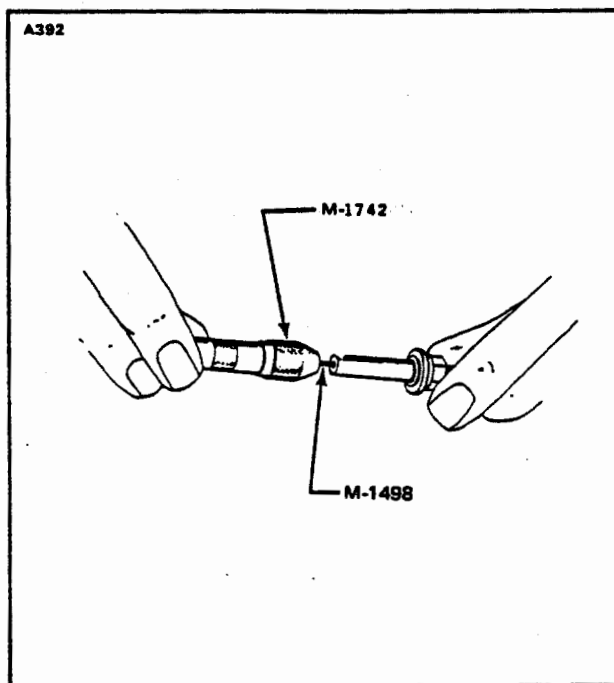

Figure 8-31. Installation of Electrical Screw
- m. Clamp the threaded end of the M-1498 Electrode Screw in the M-1742 Pin Vise. Insert the tapered pin of the electrode screw into the center of the coiled conductor by turning the pin vise counterclockwise and pushing at the same time until the screw is flush with the insulation. This is done at both ends of the wire assembly. Refer to Figure 8-31.